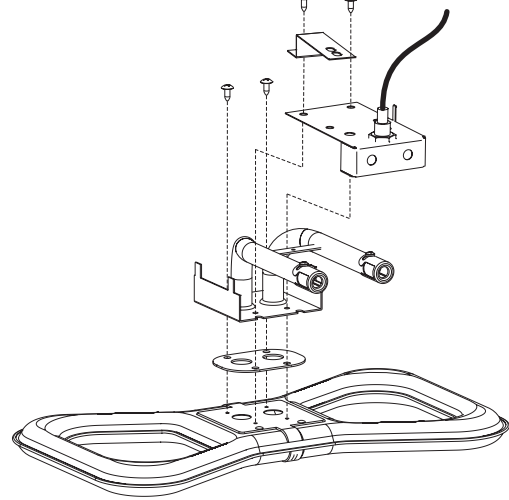

Figure 22
3. Lay the burner face down and remove the four retaining screws from the venturi tube plate and the burner. **See Figure 22.**